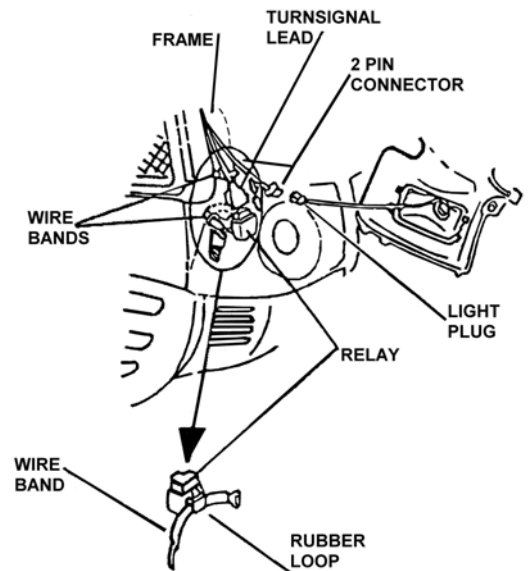

Figure 8
- Mount the left/right relay to the frame using the wire bands which are passed through the rubber loop on the relay. Fig 8.
- Connect the left/right 4 pin turn signal leads to the relay and the left and right 2 pin to the light plug. Fig 8.